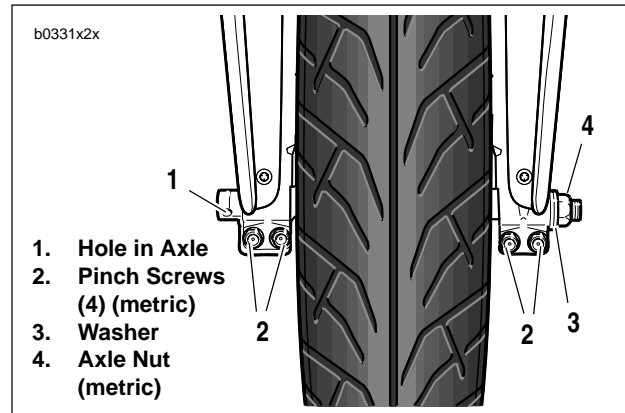
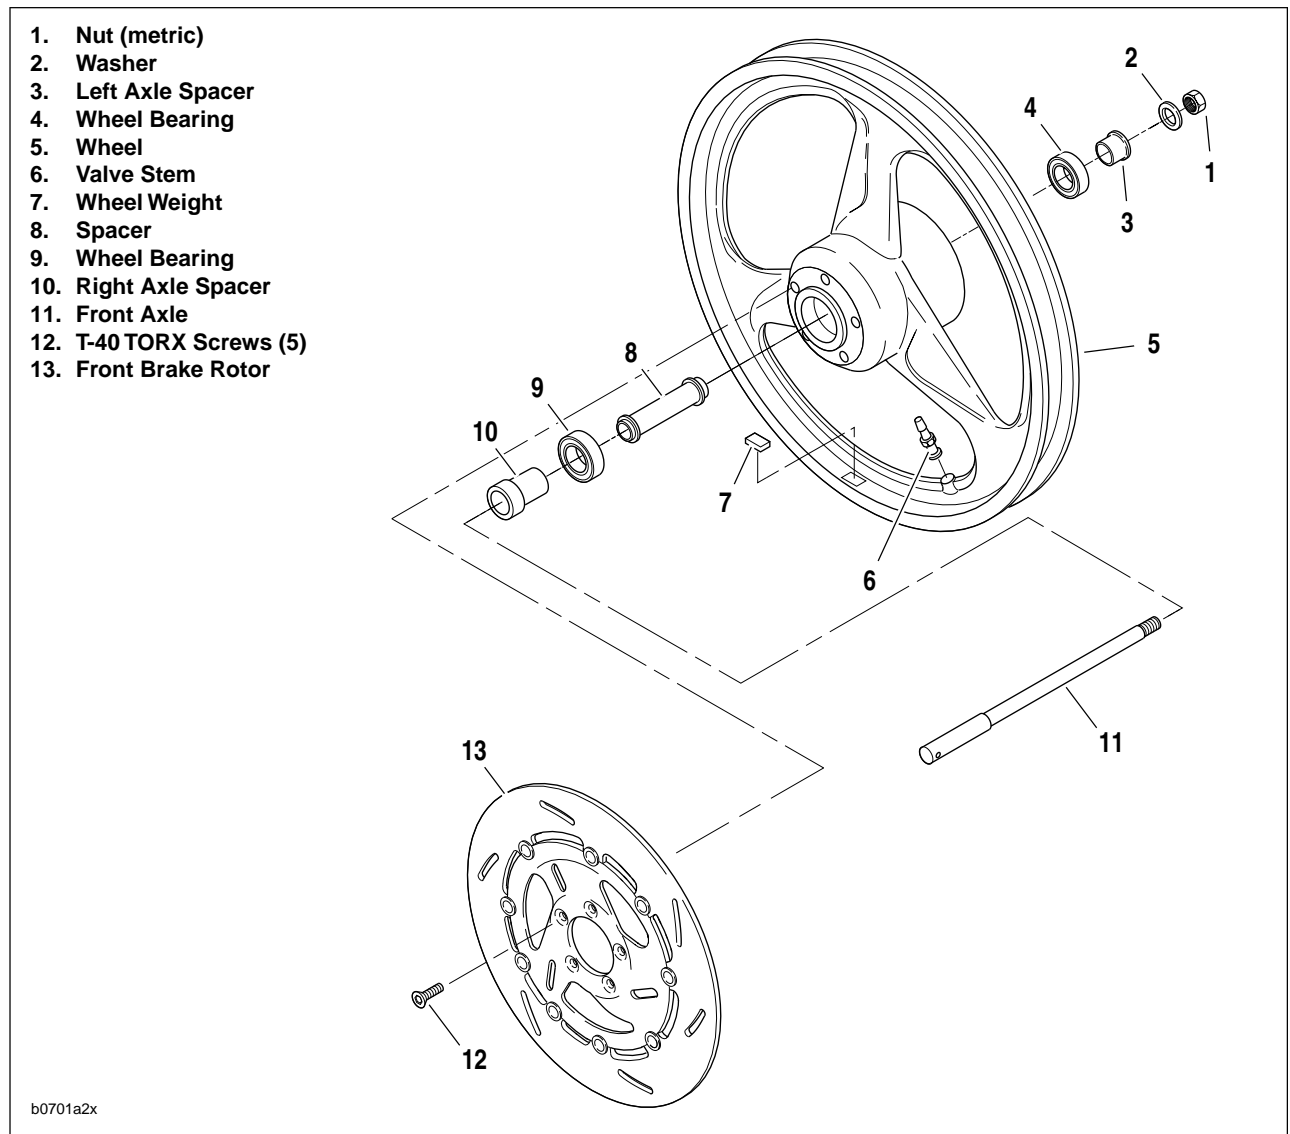

Figure 2-4. Front Wheel Mounting
Figure 2-5. Front Wheel
3. See Figure 2-4. Insert screwdriver/rod through hole in axle (1). Loosen front axle nut (4) (metric).
4. Loosen all four pinch screws (2) (metric).
5. Remove front axle nut (4) and washer (3). Pull front axle out of wheel hub while supporting front wheel.
6. See Figure 2-5. Remove front wheel.
1. See Figure 2-5. Move wheel to bench area. On brake rotor side of wheel, remove right axle spacer (10).
3. See Figure 2-5. Remove five screws (12) to detach front brake rotor (15) from wheel hub.
1. See Figure 2-5. Install front brake rotor (13) on right side of wheel. Slots in carrier must line up with wheel spokes.
- b. Apply LOCTITE THREADLOCKER 243 (blue) to threads of each of the five T40 TORX screws (12).
- c. Install rotor (13) on wheel hub using screws (12). Tighten screws in criss-cross pattern to 20-22 ft-lbs (27-30 Nm).
2. See Figure 2-5. Install spacer (8).
4. On the side of the wheel opposite the brake rotor insert left axle spacer (3) into hub until it seats in bore. Spacer sleeve must not be cocked or tilted in bore.
5. On the right side of the wheel insert right axle spacer (10) into hub until it seats in bore. Spacer sleeve must not be cocked or tilted in bore.